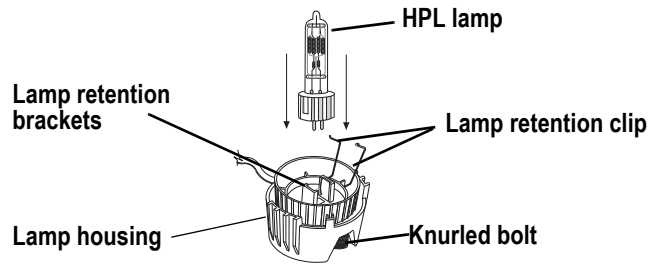

Figure 3
- Step 4: Align the flat sides of the lamp base with the retention brackets on either side of the socket as shown in Figure 3.
- Step 1: To protect the lamp housing during cleaning, remove the lamp housing by loosening the knurled bolt and pulling the housing straight out. See Figure 3.